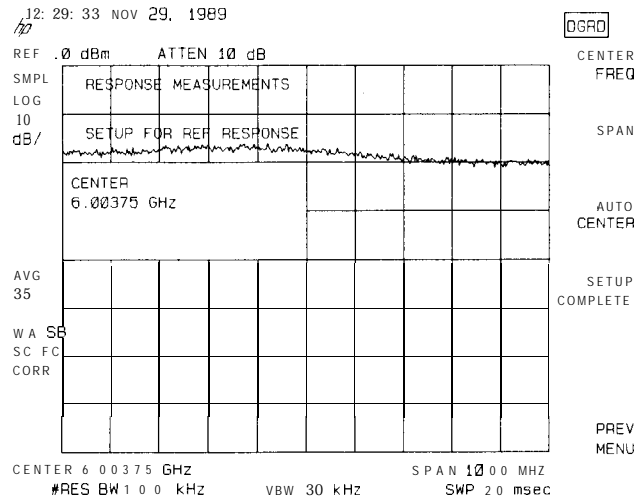

Figure 3-8. Example of Reference Response Display
2. After the reference response has been set on screen, press SETUP COMPLETE. See Figure 3-8.